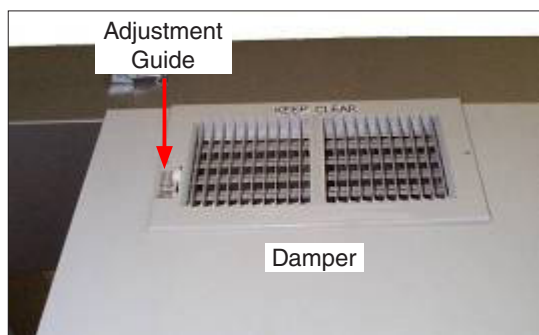

Figure 7.3e: Damper located on top of chiller cabinet.
- The chiller includes a manually-operated damper (Figure 7.3e).